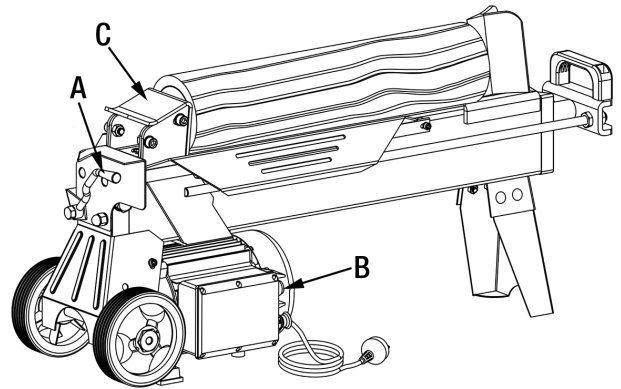

FIGURE 6
This log splitter is equipped with a control system that requires both hands of the user to be operated. The left hand controls the hydraulic control lever (A) Fig.6 while the right hand controls the momentary push button switch (B). First push the momentary push button switch to start the motor, then move the hydraulic control lever downward to engage the hydraulic pusher (C). The log splitter will stop upon absence of either hand. Only after both hands release the controls will the log pusher start to return to the starting position.